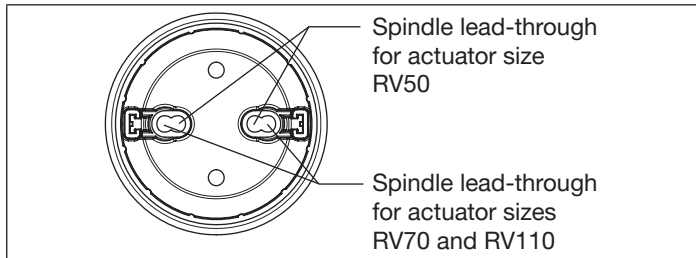

Fig. 7: Spindle lead-through
- ▶ Use only the spindle lead-through that matches the actuator size (see “Fig. 7”).
→ Push the switch spindles through the matching spindle lead-throughs. The outside lead-throughs are designed for actuator size RV70/110, while the inside lead-throughs for actuator size RV50 (see “Fig. 7”).